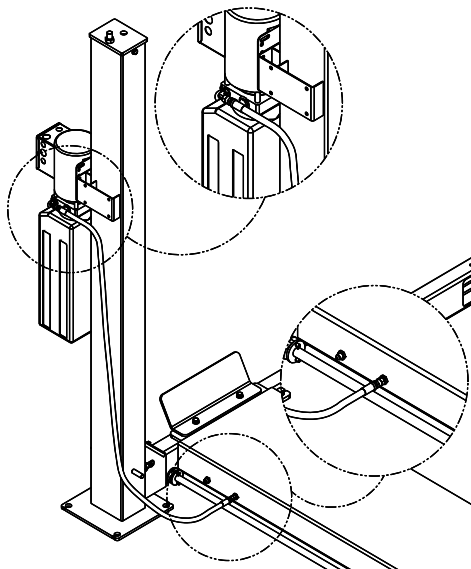

Fig 18 – Supply Line, Front
- 34) For installs on the front of the column (Fig 18), route the power unit supply line to the bulkhead shown below. Attach the 90 degree fitting at a slight angle downward and secure the hose to the fitting.